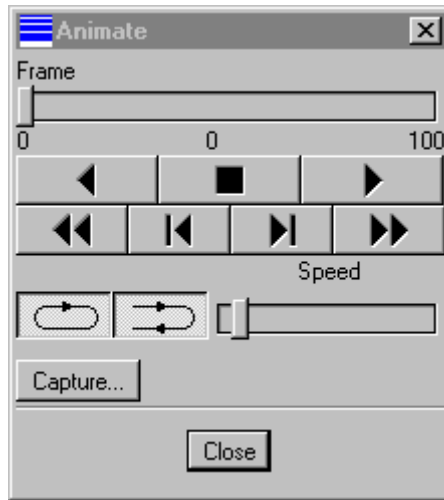

Figure 12-109: Animate Dialog Box
Step 21: Use options on the Animate dialog box to run the results of your motion study (Figure 12-109).